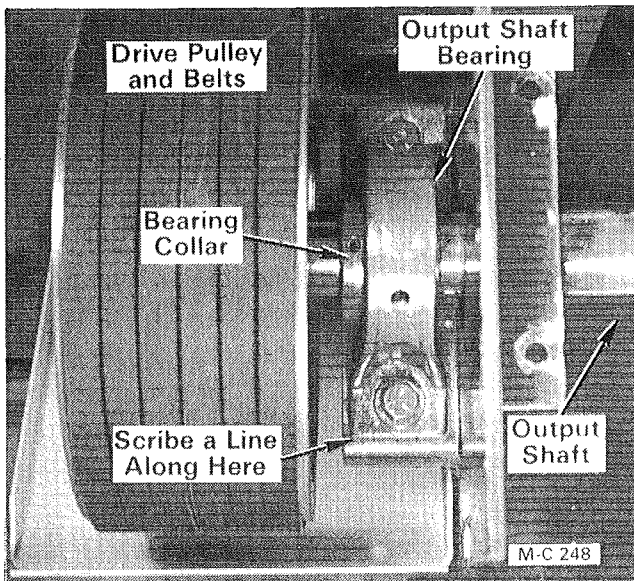
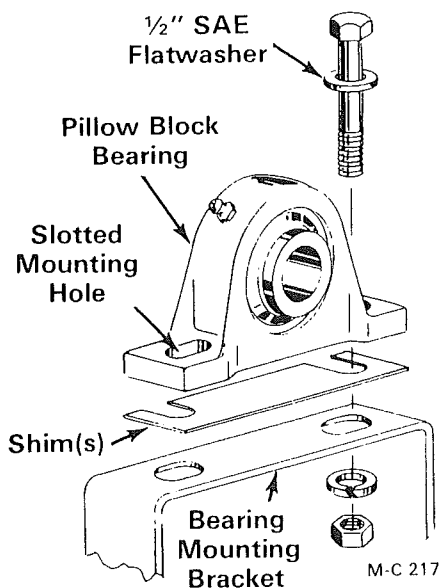

Figure 43
Figure 44
3. Scribe a line on the output shaft bearing mounting bracket as shown in Figure 43 page 21 to establish the location of the new bearing when reassembling.
4. Remove the two set screws in the bearing lock collar, two capscrews, flatwashers, lockwashers and hex-nuts securing the output shaft bearing. Loosen the output shaft center bearing cap screws. Lift up on the output shaft and remove the shims from under the output shaft bearing, see Figure 44 page 21.
9. Lift up on the output shaft and place the shims on the output shaft bearing mounting bracket, see Figure 44. Install the capscrews, SAE flatwashers, lockwashers and hex-nuts. Align the edge of the output shaft bearing with the mark scribed on the mounting bracket made in step 4, see Figure 43. Tighten the output shaft bearing capscrews and two set screws in the bearing lock collar. Tighten the center bearing capscrews.
2. Scribe a line on the output shaft outer bearing mounting bracket to establish the location of the bearing for reassembly, see Figure 43. Remove the two capscrews, flatwashers, lockwashers and hex nuts securing the output shaft bearing to the bearing mount.
6. Place the new bearing on the center bearing mount with the lubrication fitting facing to the front, see Figure 44. Bolt the bearing to the bearing mount loosely. Loosen the two set screws in the bearing lock collar.
washers, lockwashers and hex nuts. Align the edge of the output shaft bearing with the mark scribed on the mounting bracket made in step 2, see Figure 43. Tighten the output shaft bearing capscrews.
9. Lift up on the output shaft and place the shim(s) that were removed in disassembly of the outer output shaft bearing, see Figure 44. Install the capscrews, SAE flat-